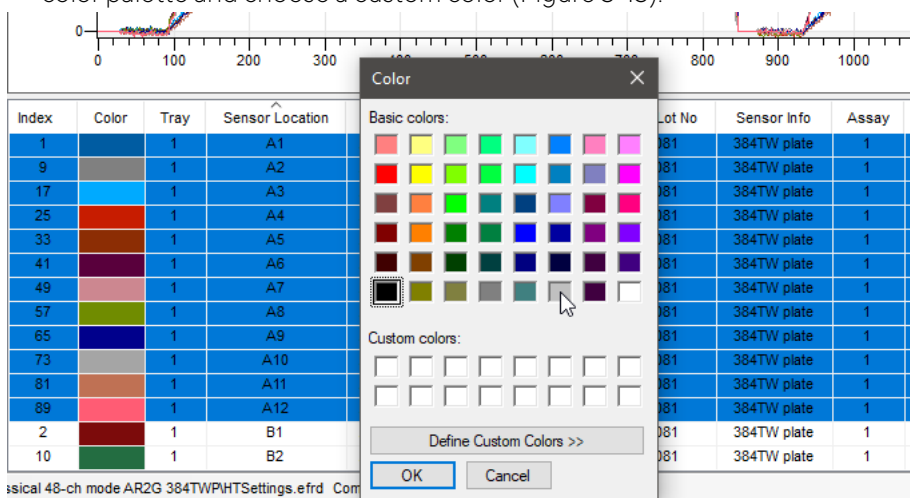

Figure 3-13: Set Color
- **Set Color**—Rapidly set the color for the table row(s) that are currently selected. Choose **Custom...** to open the color palette and choose a custom color (Figure 3-13):